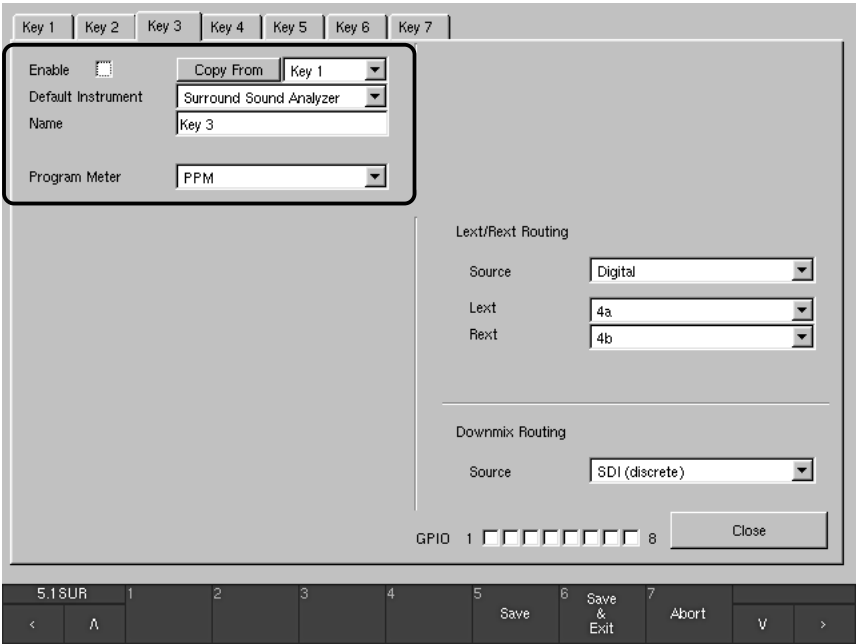

Fig. 6-24: The menu page of a disabled key (Sub Preset)
- **Enable** (see Fig. 6-24) ☒